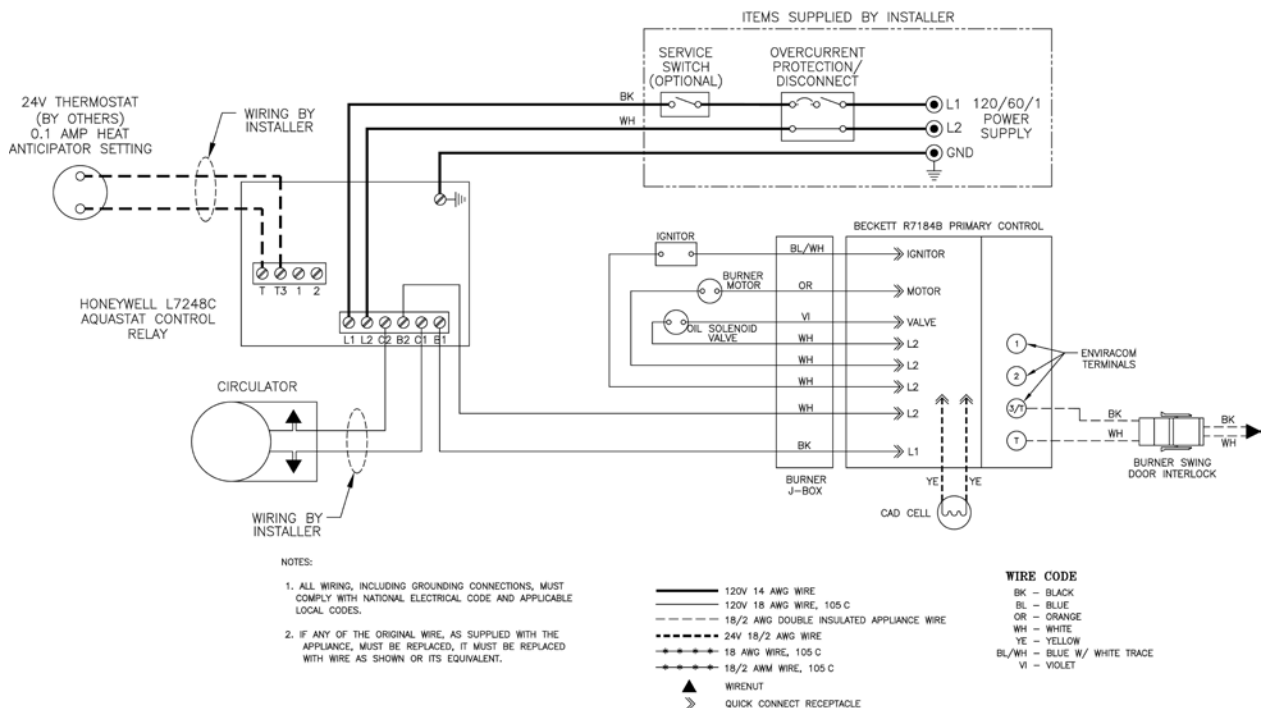

Figure 11A: Wiring Diagram for LE Boilers with Beckett AFG Burner and Split Controls
- A. Follow the National Electrical Code and local regulations. A separate electrical circuit must be run from the main electrical service with an over-current device/disconnect in the circuit. A service switch is recommended and may be required by some local jurisdictions. Wiring should conform to Figures 11A, 11B and 11C.